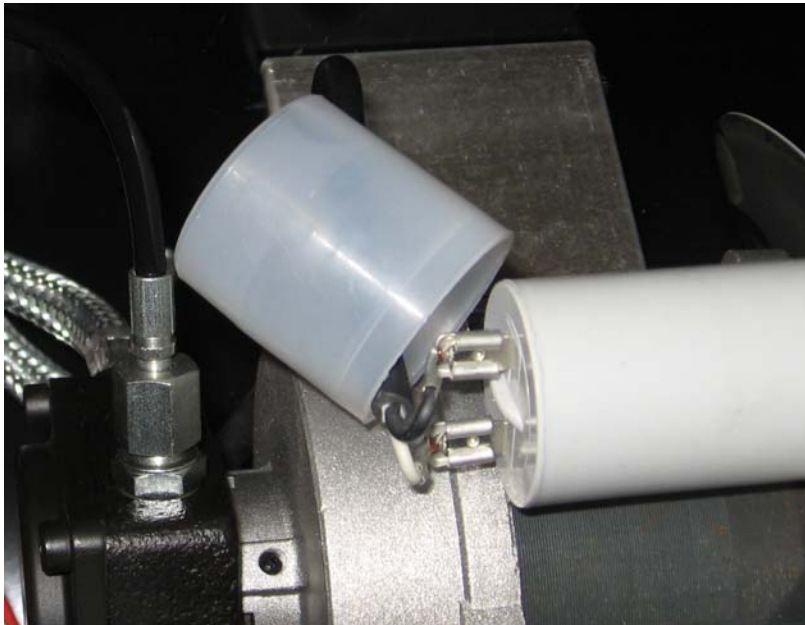

Figure 5-3 - Capacitor Wire Connections
11. Slide the plastic cover off the capacitor (11) and disconnect two female terminal couplers. (See Figure 5-3).
12. Using a 13mm socket wrench, loosen and remove the mount nut and lock washer; remove capacitor (11).
13. Using an 8mm nut driver, loosen and remove four screws (78) securing the motor assembly plate (12).
14. Remove the electric motor (10) from the lower heat shield assembly (6).
15. Turn the electric motor (10) and plate assembly (12) upside down.
16. Using a 8mm nut driver, loosen and remove four electric motor mounting screws (79) and four spring washers (80); remove unserviceable electric motor.
2. Using an 8mm nut driver, remove two middle screws from the maintenance access panel (7) and loosen four corner screws (78).
3. Slide maintenance access panel (7) rearward.
4. Slide the plastic cover off the capacitor (11) and disconnect two female terminal couplers as shown in Figure 5-3.
6. Remove capacitor (11) from electric motor (10).